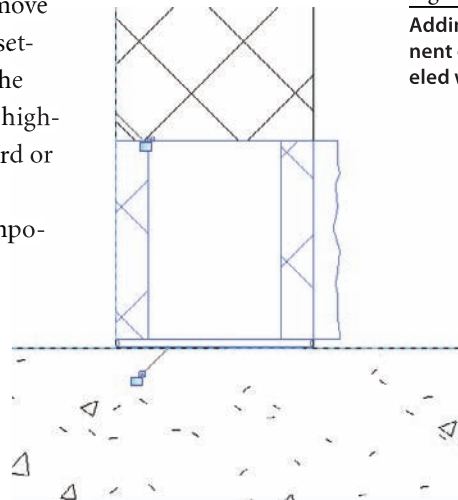

Figure 13.5
4. Lock the component into place by closing the blue padlocks (see Figure 13.5).